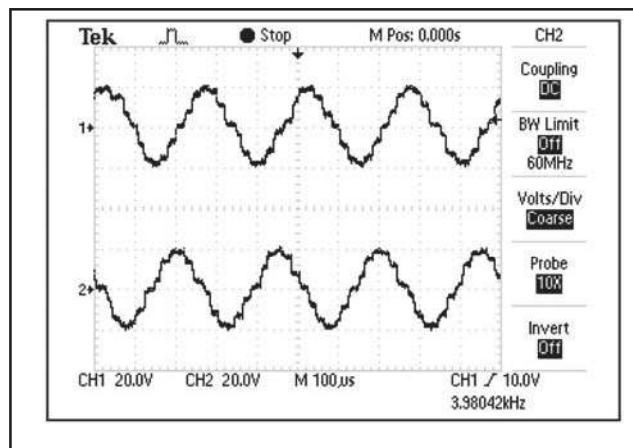

FIGURE 5.6
6. Compare waveform form on scope to **Figure 5.6**.
8. Verify that the amplitude displayed below timer and beside Channel 1 and 2 icons drops to zero (0). Verify that "Paused" is displayed beside the "Channel 1" and "Channel 2" icons.
1. Waveform is the same between scope and **Figure 5.6**, amplitude dropped to zero when paused and "Paused" displayed beside channel icons.